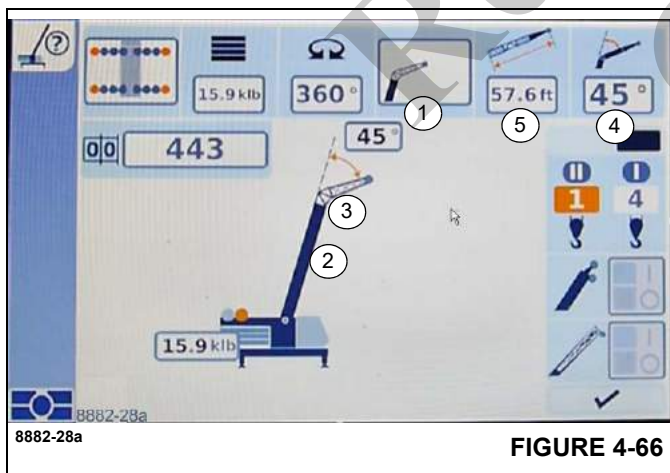

FIGURE 4-66
- Select and confirm the symbol (1), (Figure 4-66).
- Use symbol (1), (Figure 4-66) to select the rigged boom system.